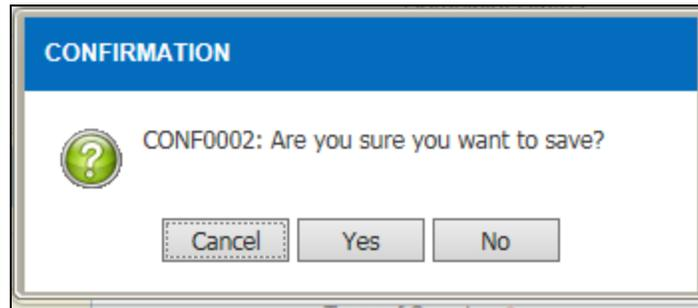

Figure 3.2.6 Confirmation Message
- The system retrieve the value of **Total Quantity, SKU, Average Unit Price (RM) and Amount(RM)** information from Item Master.
- Confirmation message will displayed after clicking save as shown in Figure 3.2.6